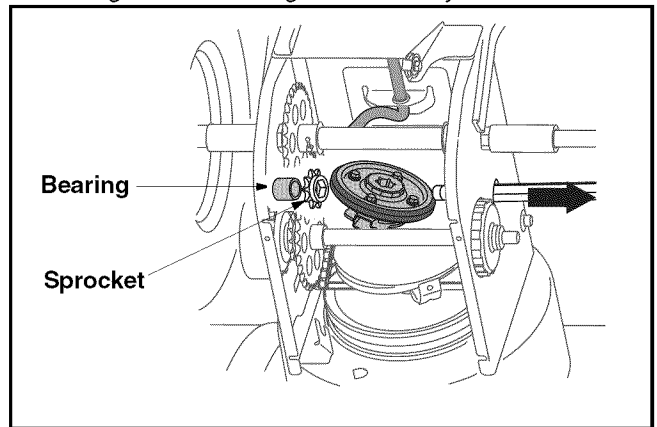

Figure 20
- Holding the friction wheel assembly, slide the hex gear shaft to the right. See Figure 20. The spacer on right side of hex gear shaft may fall.